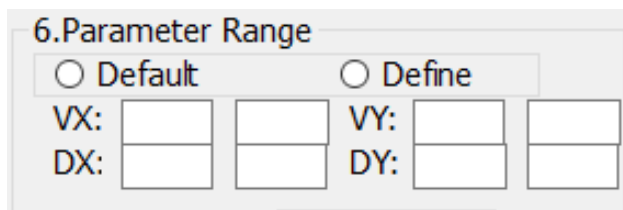

Figure 2.16. Parameter Ranges panel in GUI
The parameter range corresponds to internal parameter ranges that may be modified by an expert in oceanography or Bayesian modeling with the aim of optimizing the precision and accuracy of the prediction based on changes in the conditions of the modeling scenario or the specifics of a known situation given the occurrence of an oil spill. The default input may be modified every time SOSim is launched if the default ranges need to be changed. SOSim provides two options: *'Default'* and *'Define'* in Figure 2.16. The default parameter ranges are in Figure 2.17. These parameter ranges account for conditions in all ocean waterbodies. For sunken oil, SOSim's default parameter ranges in river settings differ from the default ranges in oceanic settings. To view the Parameter Range default, go to the *'Options'* menu of SOSim and click on *'Default Settings'*. Click the *'Parameters Range'* in the tabbed widget to view the default settings. For a river spill, the velocity range is -67.1 to 67.1 and -2.4 to 2.4 km/d in the x and y directions and the diffusion coefficient is 0.01 to 0.6 and 0.01 to 0.2 km2/d in the x and y directions. When using the *'Define'*
setting as seen in Figure 2.16, you can define the velocity and coefficient of diffusion based on the available information.
The following descriptions and conditions apply to the buttons in Figure 2.16:
- *'Define'*: When *'Define'* is clicked, the *'VX'*, *'VY'*, *'DX'* and *'DY'* boxes will appear. *'VX'* and *'VY'* are velocity in x and y directions. *'DX'* and *'DY'* are diffusion coefficient in x and y directions. The units of *'VX'* and *'VY'* are km/d, and the units of *'DX'* and *'DY'* are km2/d. For example, the blank box closest to the *'VX'* label represents the minimum parameter value for the velocity in the x direction and the blank box furthest from the *'VX'* label represents the maximum parameter value (Figure 2.16).